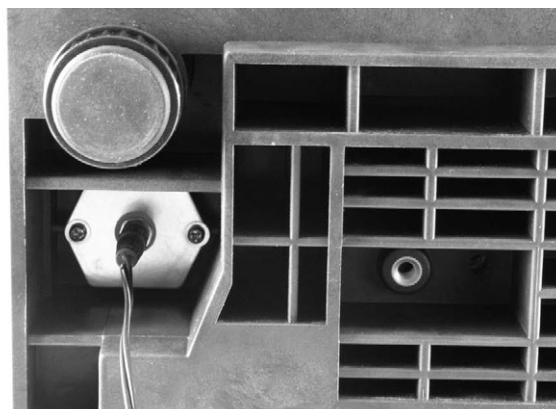

Figure 2-5. AC Plug-in Location on Underside of DC-788
1. Connect the AC power cord under the scale base as shown in Figure 2-5